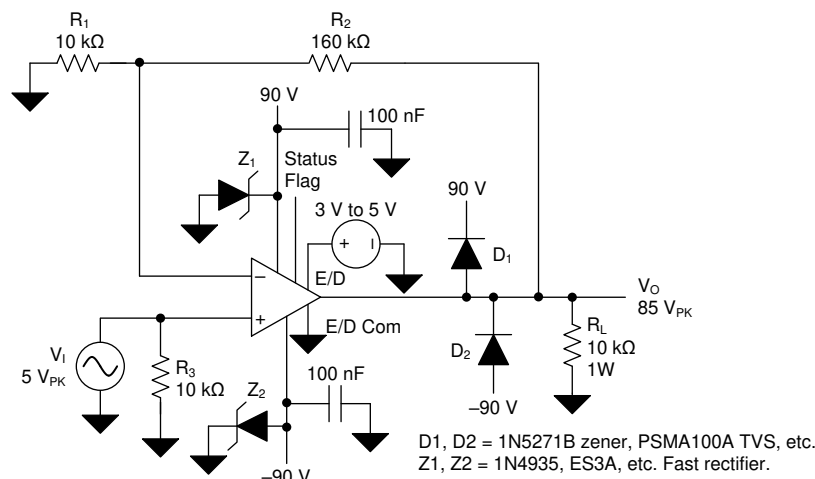

Figure 61. OPA462, High-Voltage Noninverting Amplifier, $A_v = 17$ V/V
The OPA462 high-voltage op amp can be used in commonly applied op amp circuits, but with the added capability of allowing for the use of much higher supply voltages. A very common application of an op amp is that of a noninverting amplifier with a gain of 1 V/V or higher. Figure 61 shows the OPA462 in a noninverting configuration.
Figure 61 shows a noninverting circuit with a moderately high closed-loop gain (A_V) of 17 V/V (24.6 dB). In this example, a $5\text{-}V_{PK}$ ac signal is amplified to $85\text{-}V_{PK}$ across a $10\text{-}k\Omega$ load resistor connected to the output. The peak current for this application is 8.5 mA, and is well within the OPA462 output current capability. Higher output current, typically up to 30 mA, may be attained at the expense of the output swing to the supply rails. A $\pm 90\text{-}V_{DC}$ power supply is required for this configuration.
A potentially destructive mechanism is the back EMF transient that can be generated when driving an inductive load. D_1 , D_2 , Z_1 and Z_2 in **Figure 61** have been added to the basic OPA462 amplifier circuit to provide protection in the event of back EMF. If the voltage at the OPA462 output attempts to momentarily rise above $V+$, D_1 becomes forward-biased and clamps the voltage between the output and $V+$ pins. This clamp must be sufficient to protect the OPA462 output transistor. If the event causes the $V+$ voltage to increase the power supply bypass capacitor, Z_1 , or both, a Zener diode or a transient voltage suppressor (TVS) can provide a path for the transient current to ground. D_2 and Z_2 provide the same protection in the negative supply circuit.
The OPA462 noninverting amplifier circuit with a closed-loop gain of 17 V/V has a small-signal, -3-dB bandwidth of nearly 800 kHz. However, the large-signal bandwidth is likely of greater importance in a high-output-voltage application. For that mode of operation, the slew rate of the op amp and the peak output swing voltage must be considered in order to determine the maximum large-signal bandwidth. The slew rate (SR) of the OPA462 is typically $6.5\text{ V}/\mu\text{s}$, or $6.5 \times 10^6\text{ V/s}$. Using the $85\text{-}V_{PK}$ output voltage available from the circuit in **Figure 61**, the maximum large-signal bandwidth is calculated from the slew rate formula. Equation 1, Equation 2 and Equation 3 show the calculation process.